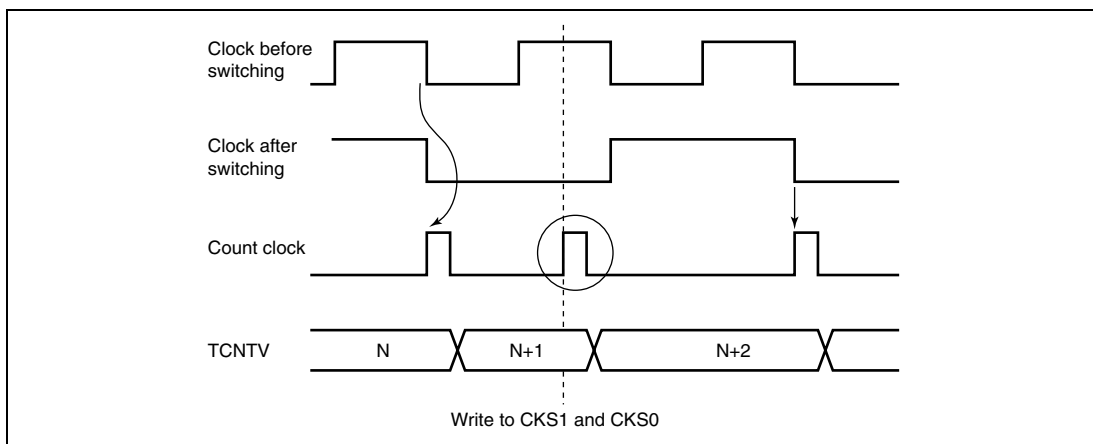

Figure 11.13 Internal Clock Switching and TCNTV Operation
4. Depending on the timing, TCNTV may be incremented by a switch between different internal clock sources. When TCNTV is internally clocked, an increment pulse is generated from the falling edge of an internal clock signal, that is divided system clock (ϕ). Therefore, as shown in figure 11.13 the switch is from a high clock signal to a low clock signal, the switchover is seen as a falling edge, causing TCNTV to increment. TCNTV can also be incremented by a switch between internal and external clocks.